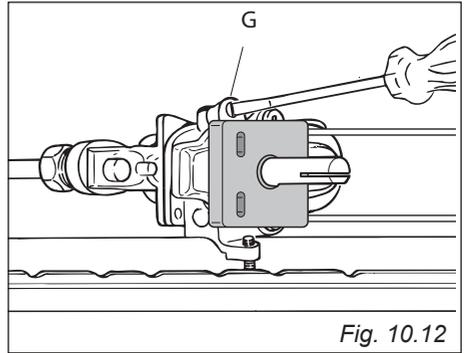

Fig. 10.12
- Remove the knob and by a thin screwdriver (3 mm section - 100 mm long) unscrew of about a half turn the screw by-pass "G", passing through the front panel hole (fig. 10.12)